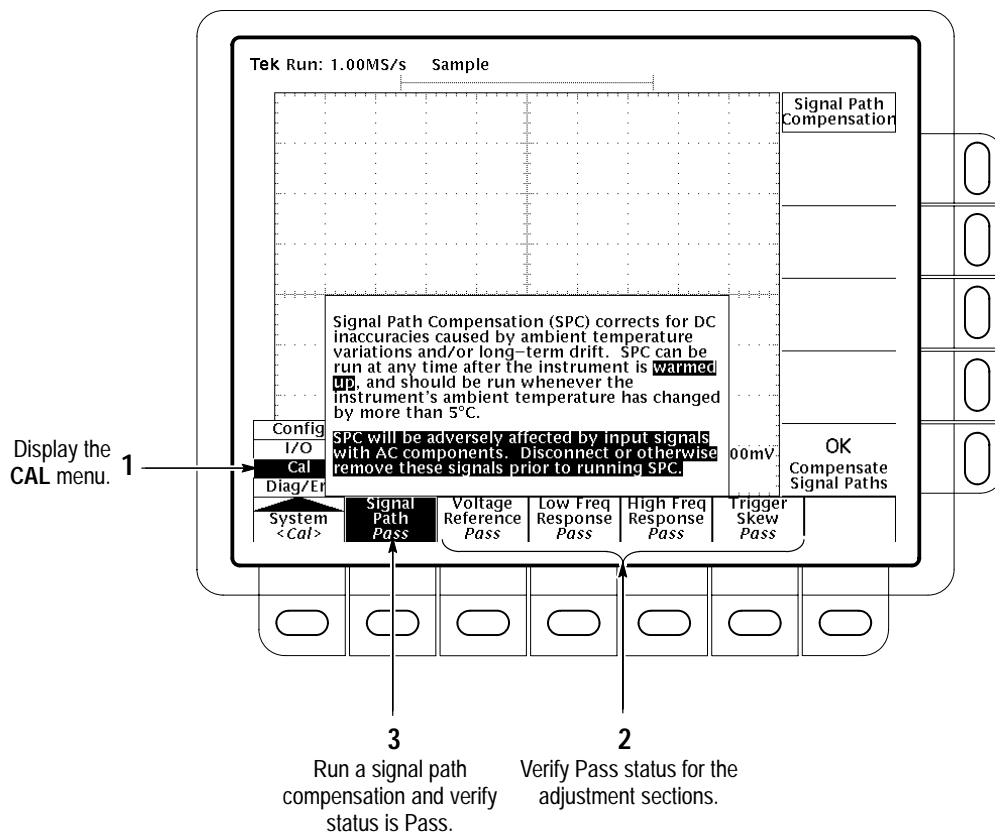

Figure 4–2: Verifying Adjustments and Signal Path Compensation
- Refer to Figure 4–1: “Main menu” refers to the menu that labels the seven menu buttons under the display; “side menu” refers to the menu that labels the five buttons to the right of the display.
- Verify that the word **Pass** appears in the main menu under the following menu labels: **Voltage Reference**, **High Frequency Response**, **Low Frequency Response**, and **Trigger Skew**. (See Figure 4–2.)
- h. *Confirm signal path compensation returns passed status:* Verify the word **Pass** appears under **Signal Path** in the main menu. (See Figure 4–2.)
- a. *Hook up the signal source:* Install the probe on **CH 1**. Connect the probe tip to **PROBE ADJ** on the front panel; leave the probe ground unconnected. (See Figure 4–3 on page 4–8.)